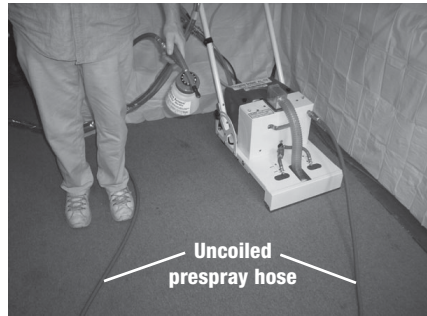
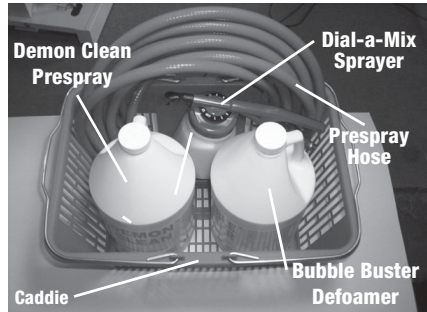

Figure 14: Prespraying carpet
Figure 15: Caddy with chemical & hose
2. When you are prespraying carpet concentrate prespray on the main traffic areas and spots. (fig. 14) Prespray spots directly and work in the chemical by rubbing the spot with your foot. Once done prespraying carpet disconnect prespray hose form the machine, release the pressure from the hose and place in the caddy (fig. 15).